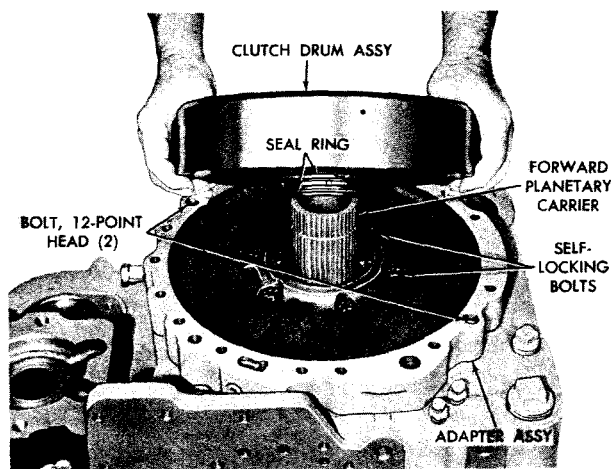

Fig. 5-38. Removing high-range clutch drum assembly (-3 underdrive model)
(4) Remove high-range clutch drum assembly (fig. 5-38). Remove the two step-joint Teflon sealrings from the hub of the drum. Refer to paragraph 6-21 for rebuild of the clutch drum assembly.
(5) Remove the two recessed bolts (12-point heads) which retain the adapter assembly (fig. 5-38).